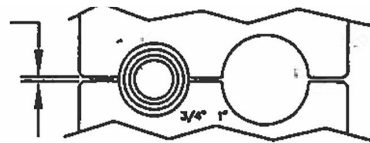

Figure 5
- Torque the bolts utilizing a wrench, making a half turn from side to side (fig.4), making sure that the tool closes in a parallel motion until the gap between the tools two halves is eliminated. (fig. 5)